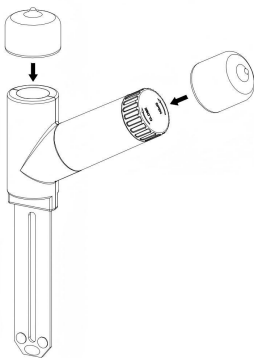

Figure 5
2. Install the long silicone cap over the battery compartment and the short silicone cap over the LED indicator, as shown in Figure 5.